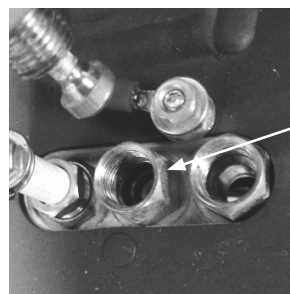

Figure 8.
Step 11: Using a 10mm wrench, remove the pilot burner inlet tube from the pilot burner. See Figure 8.